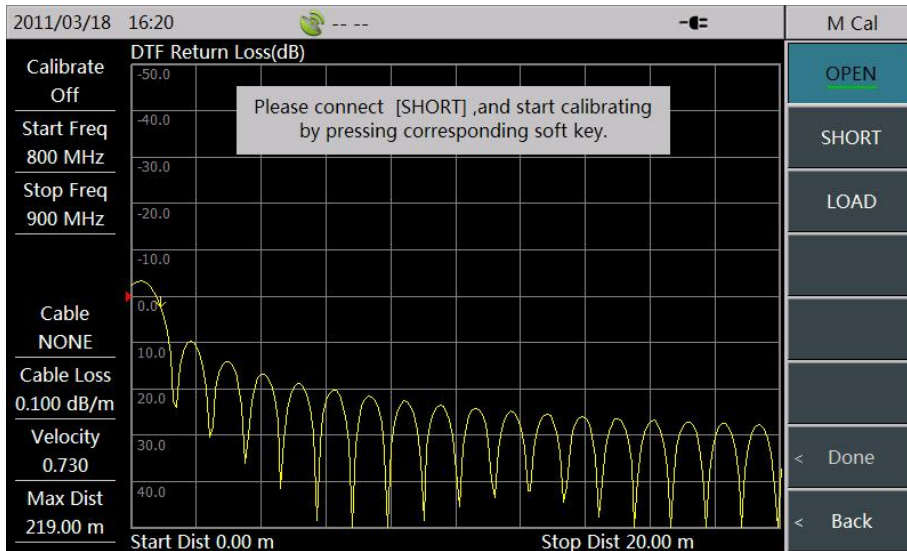

Figure 3-10 Short Circuit Calibration
- Connect calibration kit of the short circuit, and then calibrate the short circuit according to the calibration procedures of short circuit, as shown in Figure 3-10.